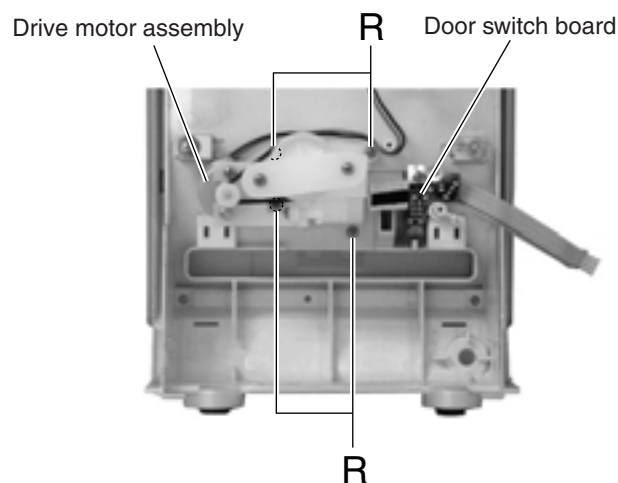

Fig.28
■ Removing the drive motor assembly (See Fig.28)